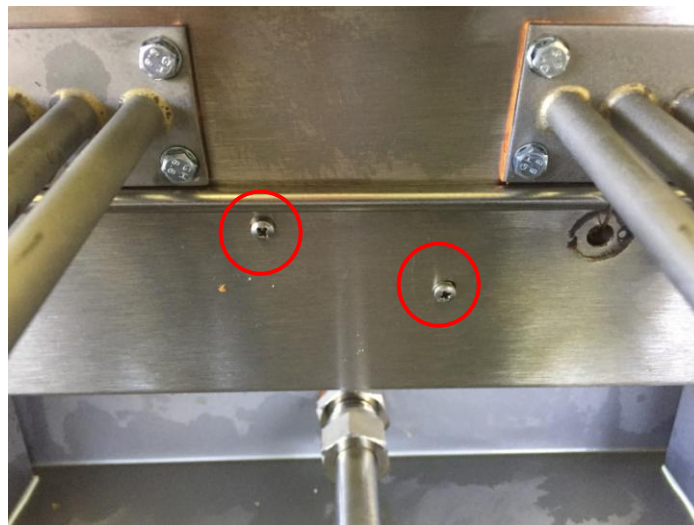

Figure 1
1. Lift up the element head & remove the 2x bracket retaining screws located on the bottom of the element head as shown in figure 1.